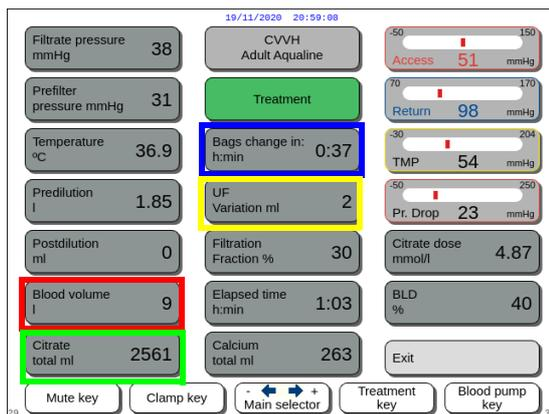

Fig. 169
- *Blood volume (l)* (red frame Fig. 169)
- *Citrate total volume (ml)* (green frame Fig. 169)
- *Bags change in (h:min)* (blue frame Fig. 169)
- *UF variation (ml)* (yellow frame Fig. 169)